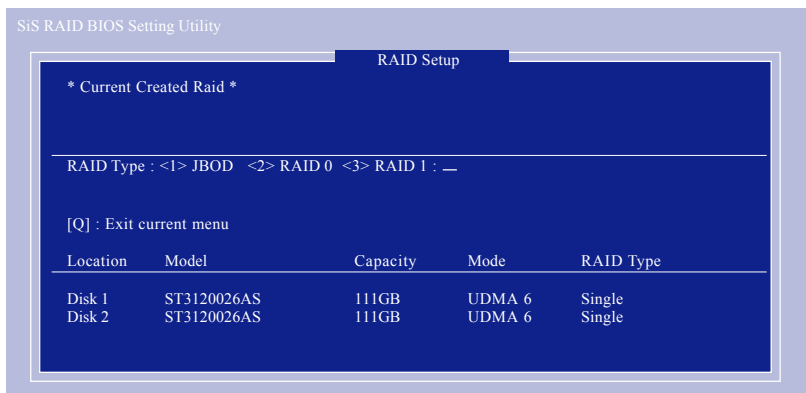

Figure 4
Then, use number keys 1~3 to select a RAID type: (1)JBOD, (2)RAID 0, or (3)RAID 1 and then press <Enter> (Figure 4). In the following procedure, we'll create RAID 0 as an example.